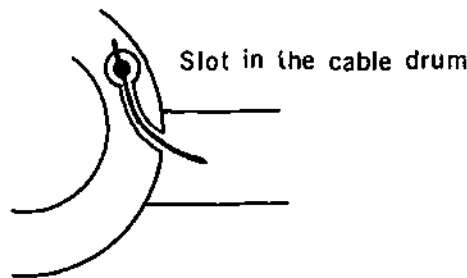

Figure 10-12
16. Place the brass ball on the end of the cable into the slot on the cable drum (Figure 10-12).